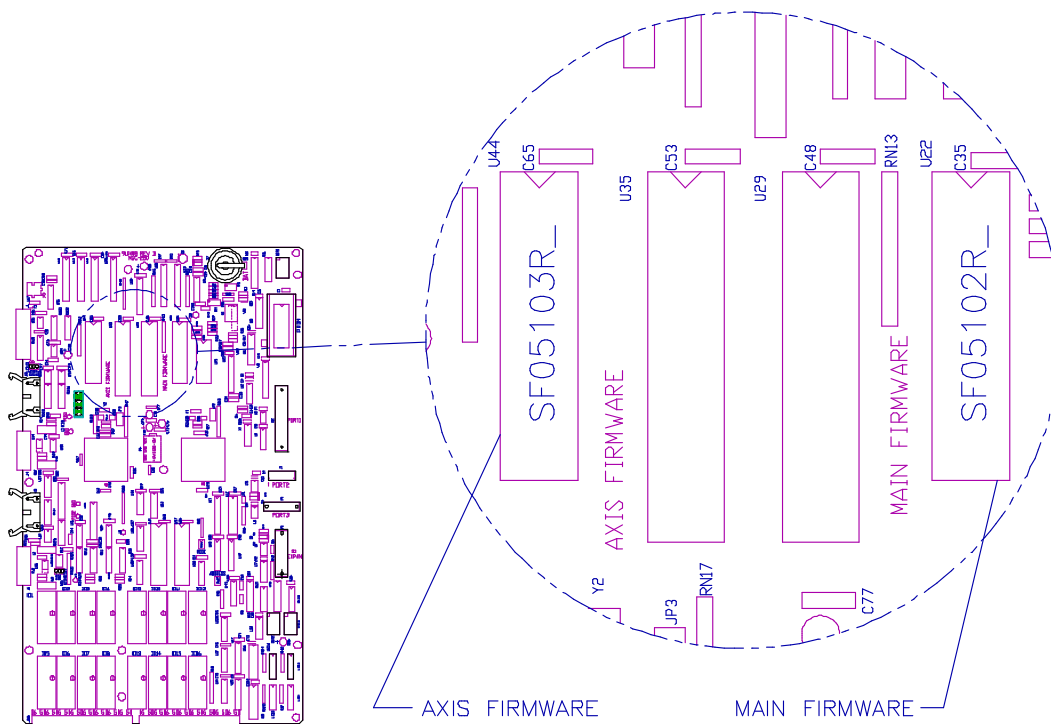

Figure 4.2 - Firmware Locations
1. Each firmware EPROM is located in a 40-pin LIF (Low Insertion-Force) socket on the controller circuit board (refer to **Figure 4.2**).